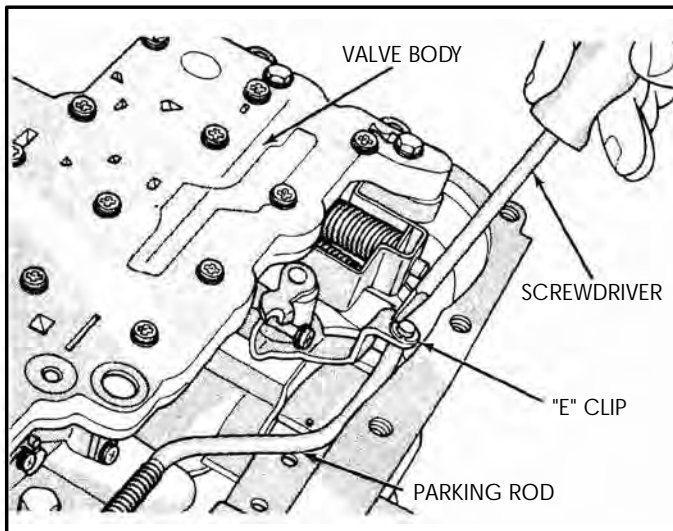

Figure 32
10. Remove the retaining "E" clip from the parking rod, as shown in Figure 32.